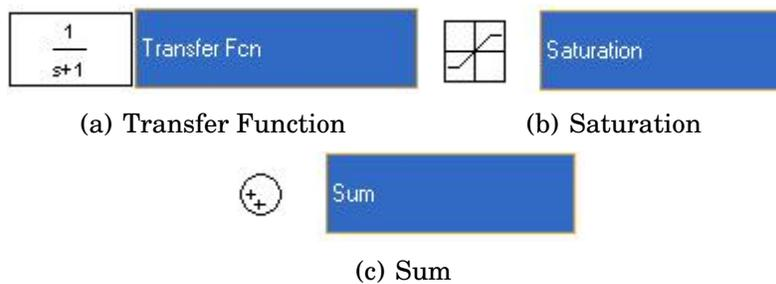

Figure 7: Homework Simulink blocks
4. In most systems we would need to add a **Transfer Fcn** block for the plant dynamics. This block can be found in the **Continuous** group of blocks and is shown in Figure 7(a). However, since our plant is just a  $\frac{1}{s}$  plant, we can just use our integrator block. Make a copy of your **Integrator** block by holding down the **CTRL** button, clicking and dragging the **Integrator** block, then release. This should place a copy of the integrator in your model. Place this integrator block to the right of the other one and to the left of the scope.
5. Find the **Saturation** block, located in the **Discontinuities** set and shown in Figure 7(b). Put this block between the two **Integrator** blocks.
add a **Sum** block, which is located in the **Math Operations** set and shown in Figure 7(c). Drag this block in between your **Step** and **Gain** block.